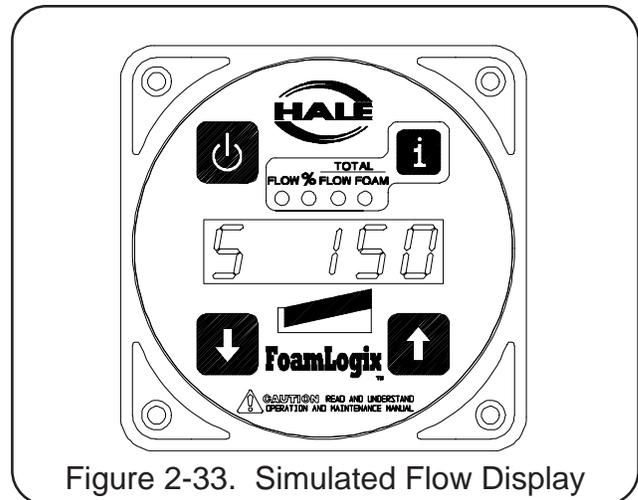

Figure 2-33. Simulated Flow Display
1. Determine location on panel where switch is to be mounted. Refer to figure 2-33 and layout panel cutout and mounting holes as shown.
5. Place the system in simulated flow mode by selecting the **FLOW** display and depressing both up ↑ and down ↓ buttons simultaneously. Set simulated flow value to 100 GPM by pressing up ↑ or down ↓ button. Display will show "S" at the left most position to indicate the simulated flow (See figure 2-33).
Observe the display on the control unit while energizing the apparatus electrical system and turn the foam pump distribution box power switch to **ON**. Check the control unit readout — **FLOW, TOTAL FLOW, % FOAM, TOTAL FOAM** and all bargraph LEDs will light along with "88888" for several seconds. "HALE CLASS 1 2002" followed by the software revision level (r x.x) will scroll across the display while the system checks itself followed by the flow display. The flow display is zero on the digital readout (if no water is flowing) and FLOW LED (See figure 2-33). If flow display does not appear refer to TROUBLESHOOTING for possible causes and solutions.